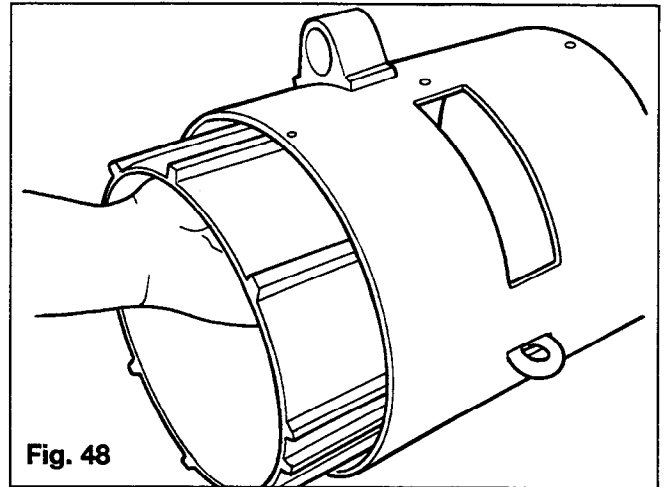

Fig. 48
12. If your unit has a housing liner, remove it at this time (Figure 48).